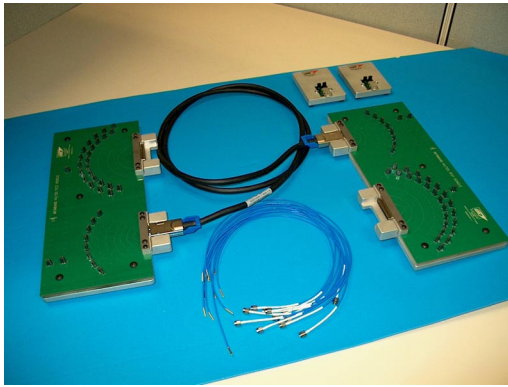

Figure 15 – Gore cable test fixture.
- InfiniBand cable test fixture (available from Gore; see Figure 15)